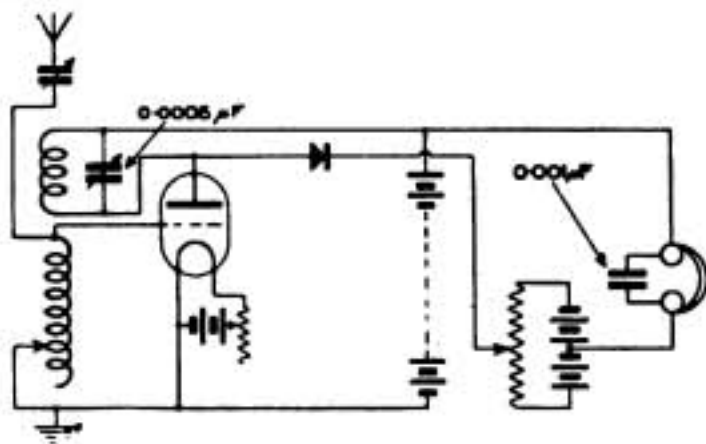
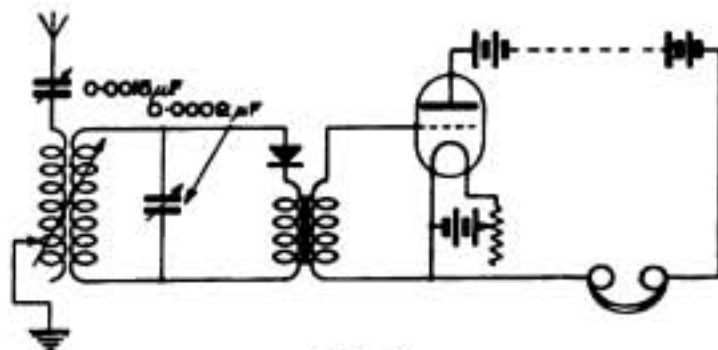
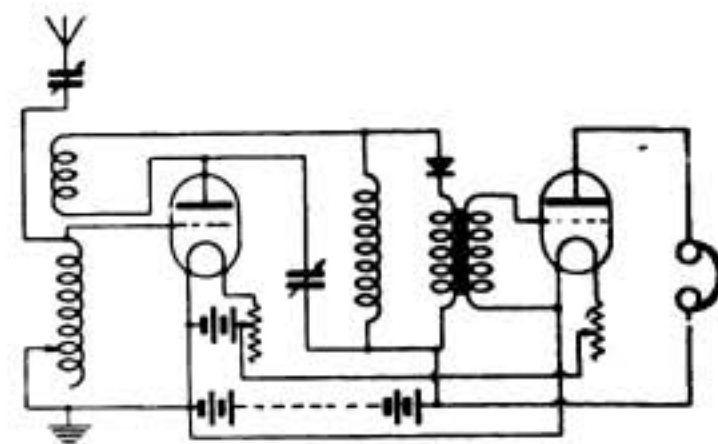

Fig. 4.
Fig. 5.
Fig. 6.
(1) The use of a valve as H.F. amplifier followed by crystal rectifier can be thoroughly recommended for short wave reception. Suitable circuit is given in Fig. 4. (2) See Fig. 5. (3) See Fig. 6. All of these circuits are admirably suited for your purposes.
(1) See Fig. 4, page 467, issue for July 8th. (2) Owing to the breaking down of the grid circuit the result may be a true oscillation or a sequence of rapid discharges from the A.T.C. (3) It should be possible on an indoor aerial or a good frame. (4) This is not uncommon. Some valves will function without H.T., but in a much less sensitive way.
(1) The switching arrangement shown in Fig. 5, page 62, April 8th issue, can easily be extended to suit a five-valve circuit such as yours. (2) Circuit is correct except that blocking condenser in the anode of the third valve should be across the iron-cored coil only, and not reaction coil as well. (3) The set would be somewhat improved by a potential adjustment of the first three valves.
(1) and (2) For short wave work we should recommend circuit as shown in Fig. 5, page 62, April 8th issue, with the addition of a further H.F. valve, the switching being extended on the same lines as shown. (3) Yes. (4) A wide range of wavelengths, including short waves. A plug-in arrangement to enable either condenser coupling or transformer coupling to be used is very convenient.